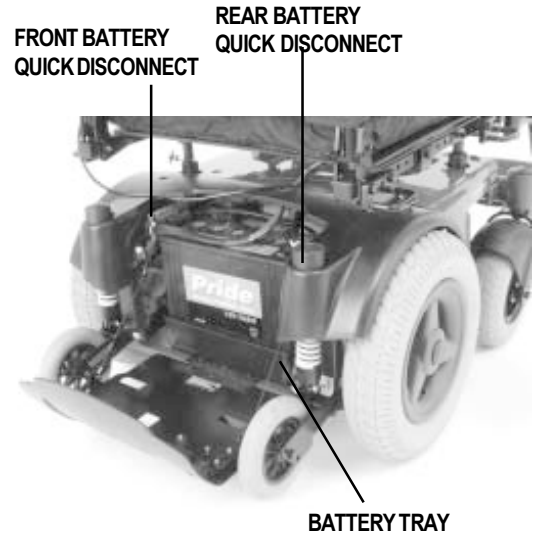

Figure 25. Blast Rear Door (Down)
5. Slide out the battery tray. See figure 25.